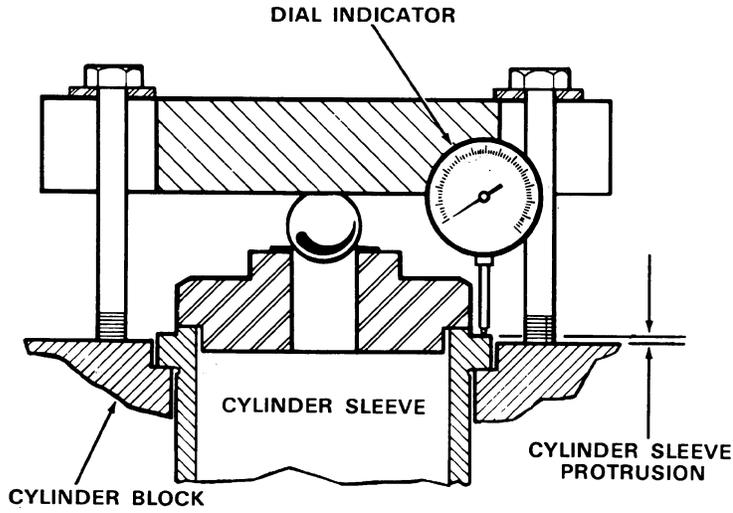
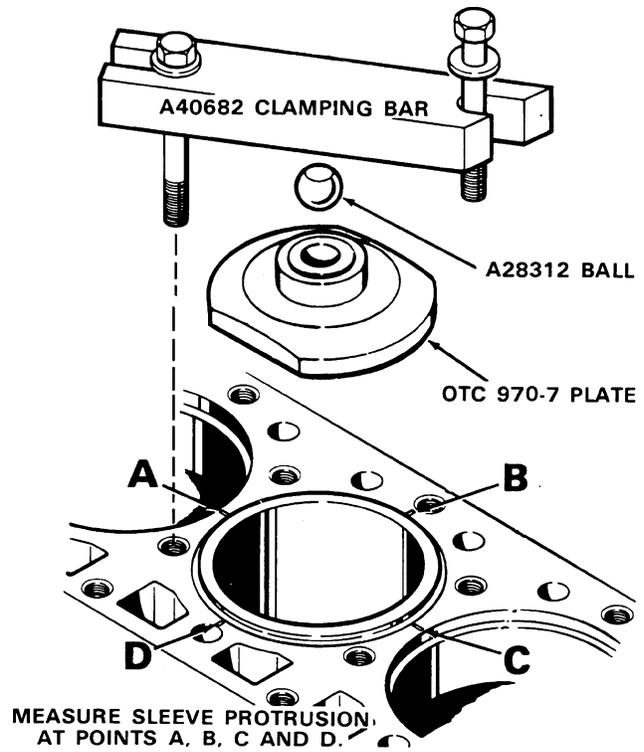

Figure 6
Figure 7
- Sleeve protrusion must be checked to determine which fire ring is used, Figure 5. Make sure the correct fire ring is used. **NOTE:** Only the standard size fire ring is included in the valve grind gasket kit. However, a thicker fire ring is available if the protrusion chart indicates a need for it. The thicker fire ring can be identified by a black marking stripe. Either a magnetic base dial indicator or a depth micrometer can be used to determine the cylinder sleeve protrusion as indicated in Figure 6. Measure cylinder sleeve protrusion at points A,B,C and D. Using ball (A28312), clamping bar (A40682) and plate (OTC 970-7), clamp the cylinder sleeve in place, Figure 7. **NOTE:** The plate OTC 970-7 is available through local Owatonna Tool dealers or the Owatonna Tool Co., Owatonna, Minnesota. Torque the hold down capscrews to 50 ft. lbs.